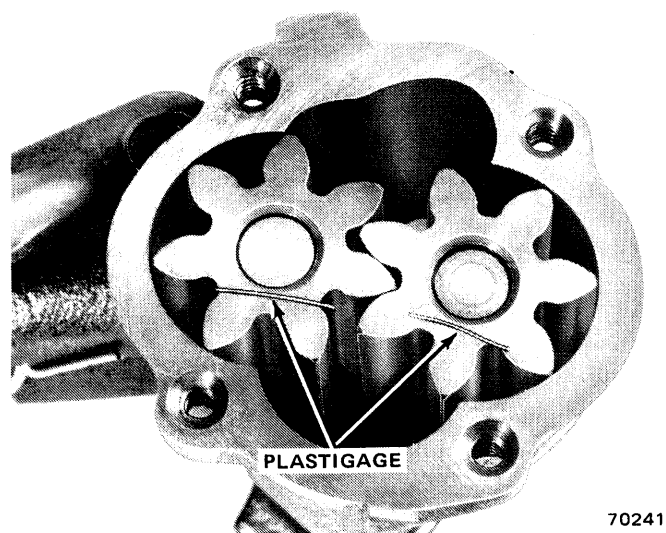

Fig. 1A-32 Oil Pump Gear End Clearance Measurement
- (1) Remove cover retaining screws, cover, and gasket from pump body.
- (2) Measure gear end clearance.
- (a) Place strip of 0.002 to 0.006 inch Plastigage across full width of each gear (fig. 1A-32).